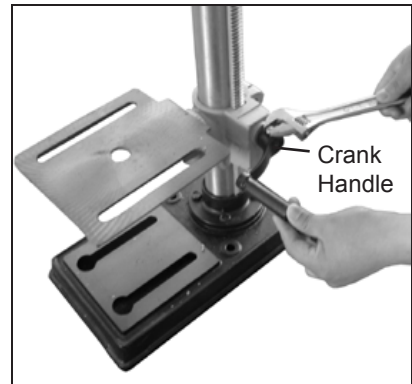

Figure 3
- 2.6 Attach crank handle (6) to shaft (7), rotate to remove slack, and shoulder crank handle against table bracket. Secure handle with screw. **Fig. 3**